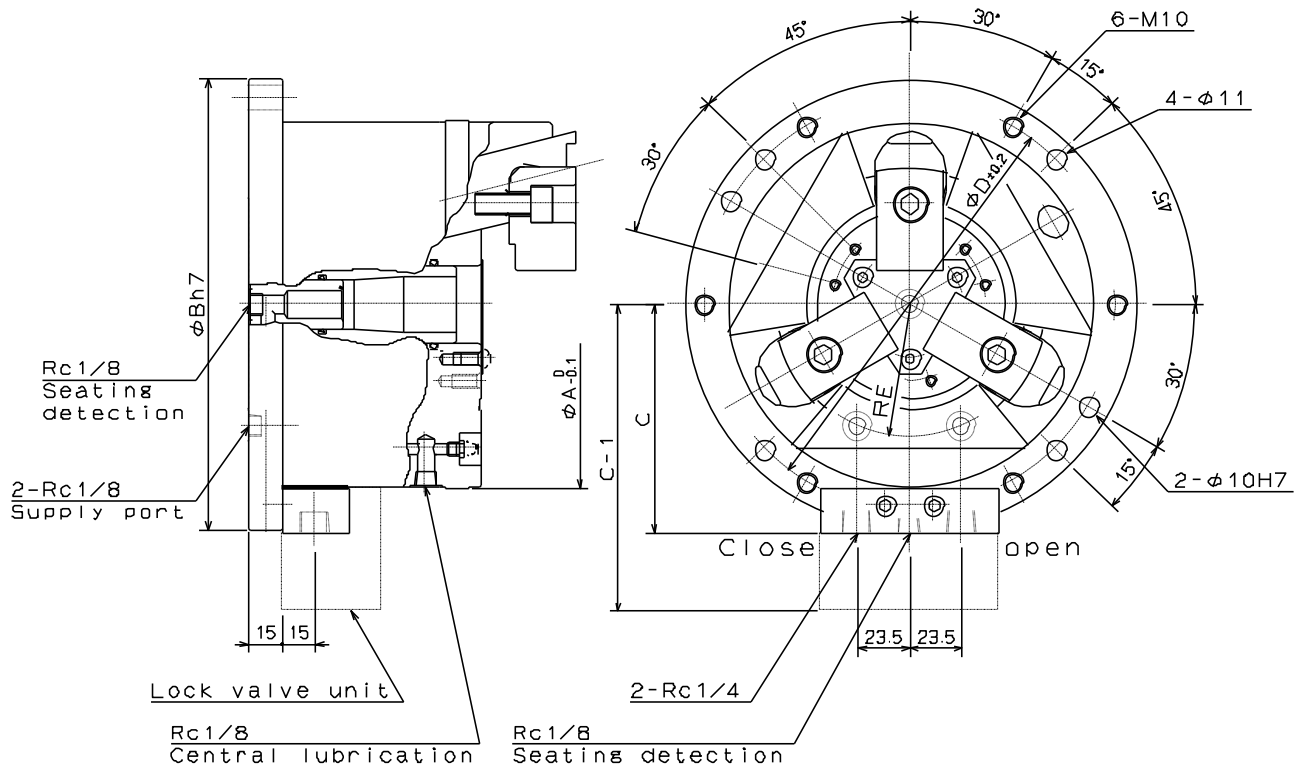

Fig.14
- Connect the pipe to the air supply port at the block or work gripper bottom. Blind the port on the side not used. (See Fig.14)